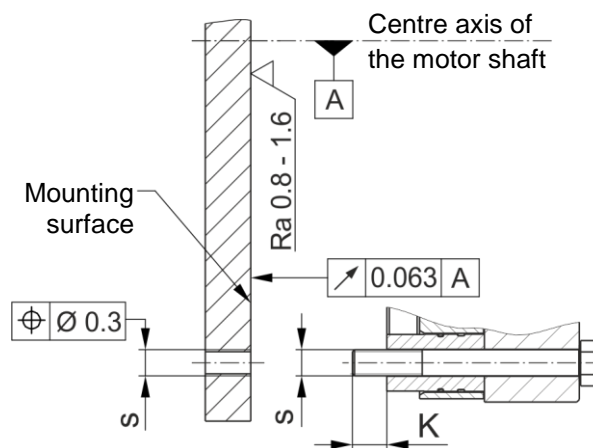

Fig. 8
- ❑ On hub designs the tolerances of the hub bore (15) and the shaft must be selected so that the hub toothing (15) is not widened. Widening of the toothing leads to the rotor (3) jamming on the hub (15) and therefore to brake malfunctions. Recommended hub – shaft tolerance H7/k6. If the hub (15) is heated for better joining, the O-ring (16) must be removed beforehand and re-mounted after hub installation. The max. permitted joining temperature of 200 °C must not be exceeded.
- ❑ Dimensioning of the key connection according to the requirements shaft diameter, transmittable torque and operating conditions must be carried out. For this, the corresponding user data must be known or the customer must carry out the dimensioning according to the valid calculation basis DIN 6892. For the calculation, a hub quality of $Re = 300 \text{ N/mm}^2$ should be used. The length of the key should lie over the entire hub (15).
- ❑ The mounting dimensions and the tapped holes s with depth $K + 2 \text{ mm}$ (K = screw projection) must be provided according to the Catalogue or the applicable assembly drawing (Fig. 8).
- ❑ The O-ring (8) or O-ring (16) must be lightly greased.
- ❑ The toothings of the motor shaft rotor (3) and the hub (15) must not be oiled or greased.